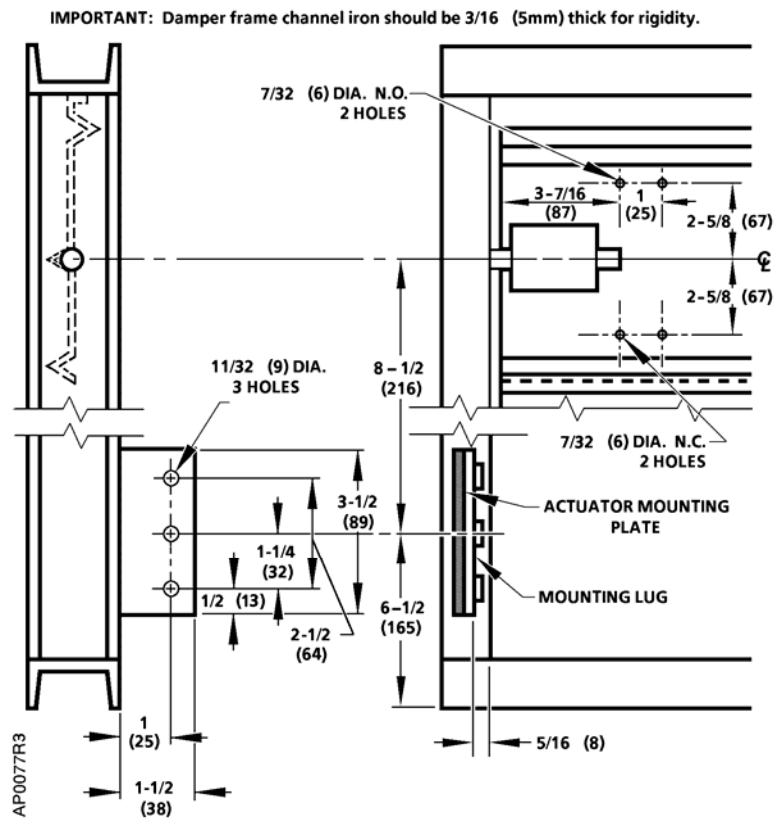

Figure 10. Frame Mounting Dimensions.
2. Weld the mounting lug to the damper frame (Figure 10) so that it is parallel and 5/16-inch (8 mm) from the inside edge of the damper frame and perpendicular to it. Weld the mounting lug along both sides. The mounting lug should be as close as possible to the corner of the damper frame to minimize deflection. The damper manufacturer should weld the lug.
4. Attach the rocker to the blade in the proper position for a normally open or normally closed damper (Figure 10).